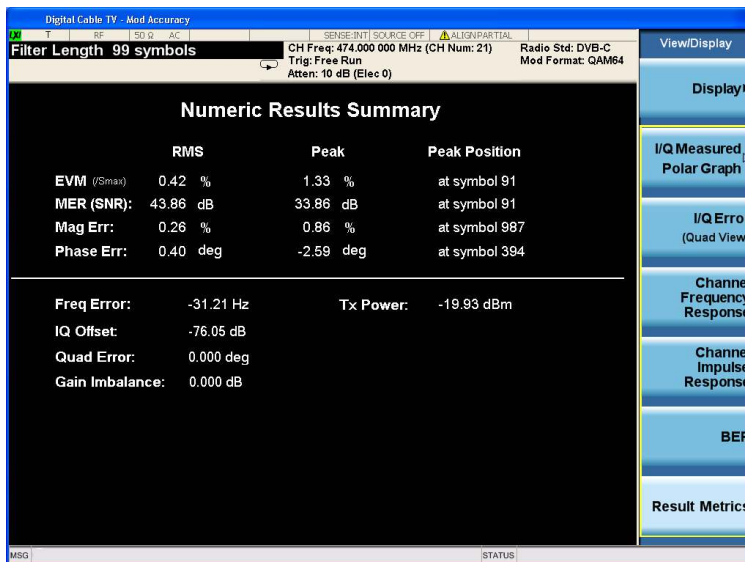

Figure 13.
View the result metrics (Figure 13)	[View/Display] {Result Metrics}
- Result metrics view (Figure 13): summary of all the result metrics